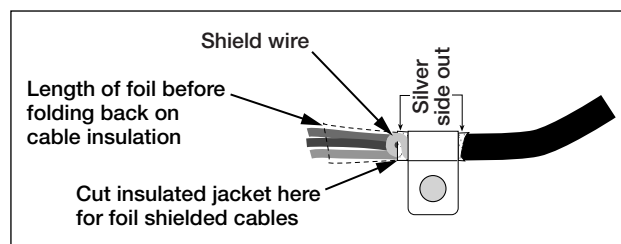
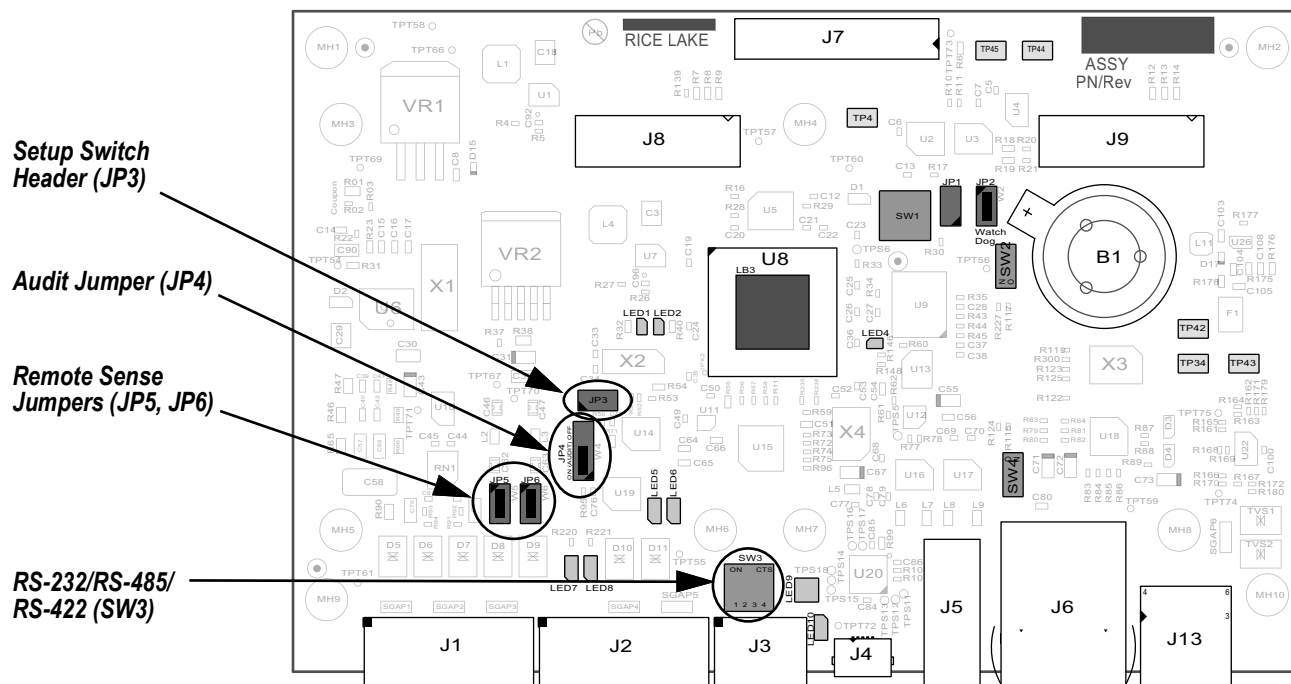

Figure 2-4. Foil Shielded Cable
Figure 2-9. 882D CPU Board
A belt conveyor scale must be equipped with an encoder (speed sensor) that accurately senses the belt speed and travel distance when the belt is empty or loaded. The J13 connector provides the pulse input from the speed sensor to the 882D. To attach the cable from the encoder, route the cable to the J13 connector (Figure 2-9 on page 18). The connector for the cable is included in the parts kit. Wire the cable to connector as shown in Figure 2-4. Pins 4, 5 and 6 are the top level of the connector and make up the primary pulse input channel (Input 1). Pins 1, 2 and 3 are the bottom level of the connector and make up the secondary pulse input channel (Input 2).
The Digital I/O Port, J2 connector (Figure 2-9 on page 18) is intended to be connected to both digital inputs and outputs.
The J3 connector (Figure 2-9 on page 18) is intended to provide a connection point for the RS-232 or the two-wire RS-485/RS-422 serial communications. Table 2-6 shows the pin assignments for the J3 connector.
**NOTE:** For RS-232, all four switches on SW3 (Figure 2-9 on page 18) must be in the OFF position. For RS-485/RS-422, all four switches on SW3 must be in the ON position.
The USB Device Port, J4 micro USB connector (Figure 2-9 on page 18), is intended to be connected to a PC only. It appears as a Virtual COM Port and is assigned a “COMx” designation. Applications communicate through the port like a standard RS-232 communications port.
The 882D features Ethernet TCP/IP 10Base-T/100Base-TX communication using a standard RJ45 connector, J6 (Figure 2-9 on page 18). It can support two simultaneous connections, one as a server, the other as a client.